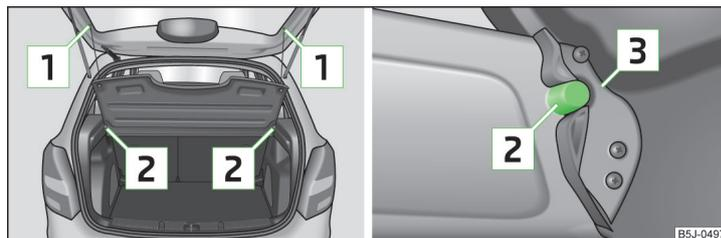

Fig. 64 Removing the boot cover
- Unhook support straps **1** » Fig. 64.
- Place the recesses of the cover **3** » Fig. 64 over the holders **2** in the side trim panel.
- The recesses in the cover [3] » Fig. 64 must lock in the holders in the side trim panel [2].